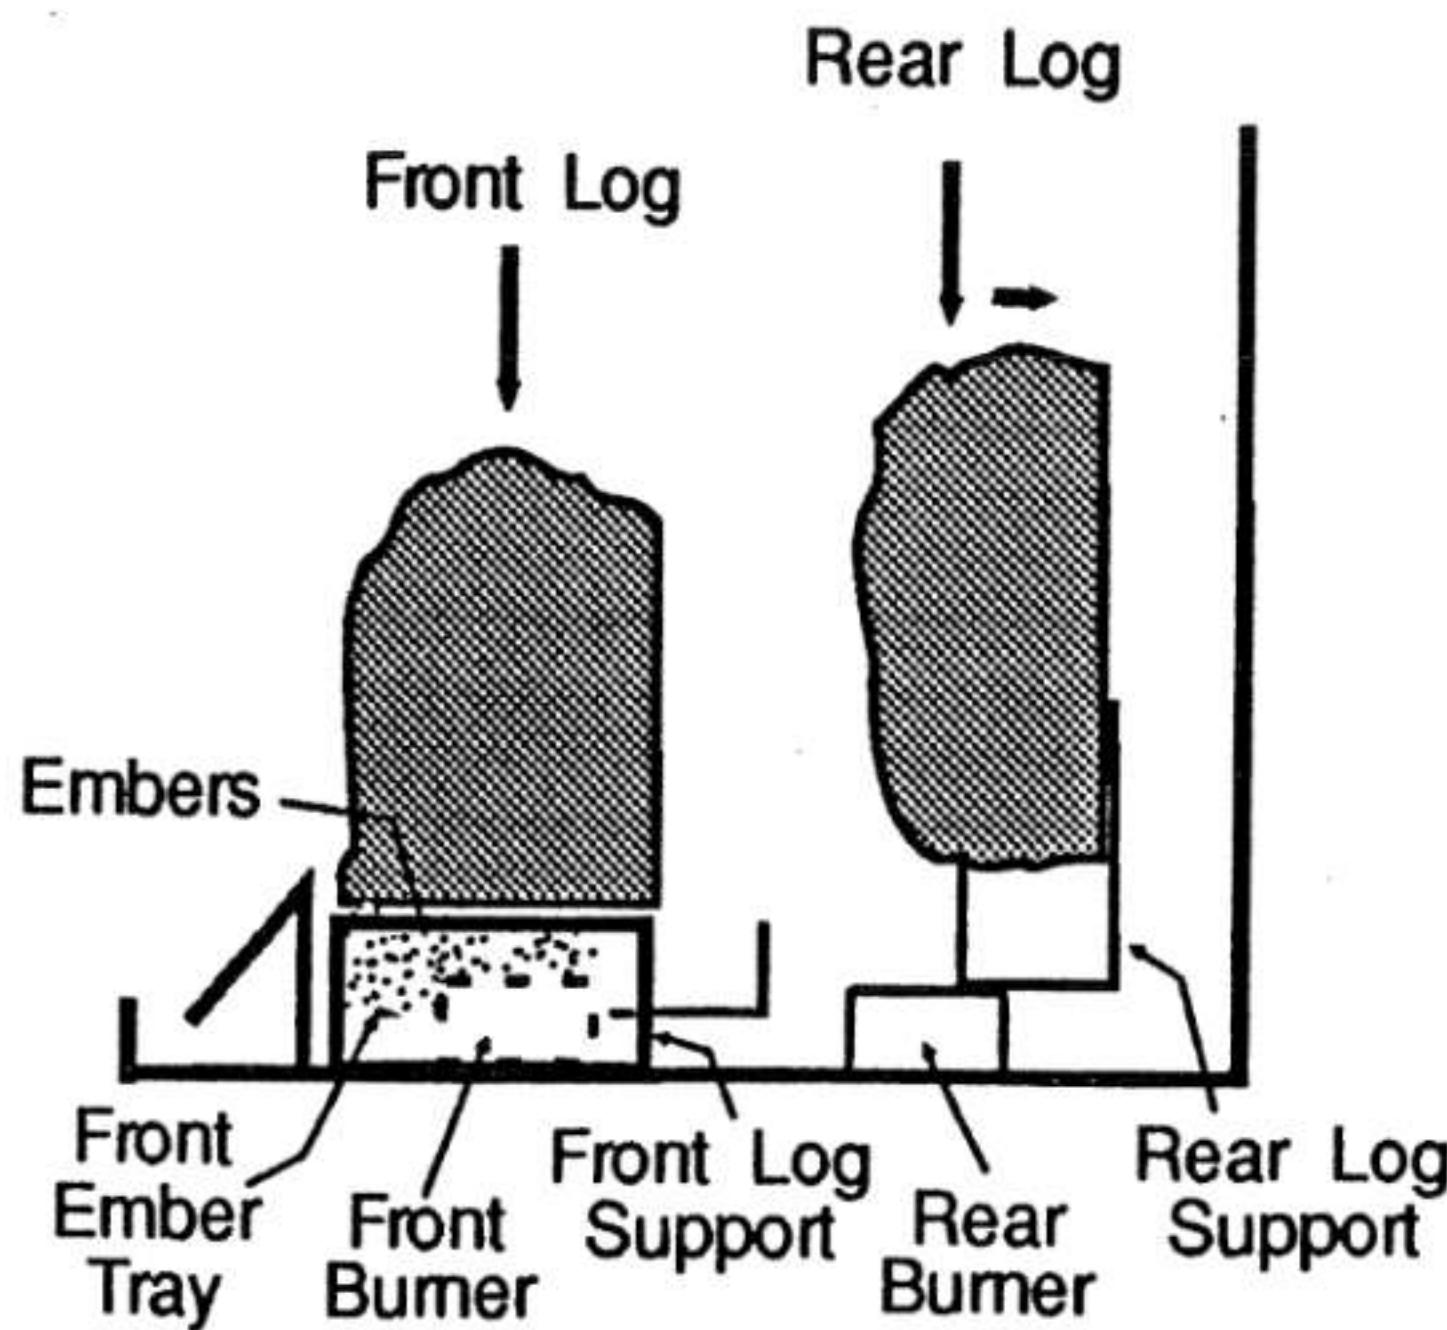

Fig. 15: Side View
- 4) Carefully place the rear log (with no cutouts) so it rests on the rear supports (with the flat part of the log to the back) and then push the log flush against the back. Center the log, relative to the rear burner. The knot in the log should sit just to the right of center. See Fig. 15 & 16.
- 5) Place the front log (with the cutouts) on the two front log supports, the log must be even with the front edge of the supports. See Fig.15 & 16.